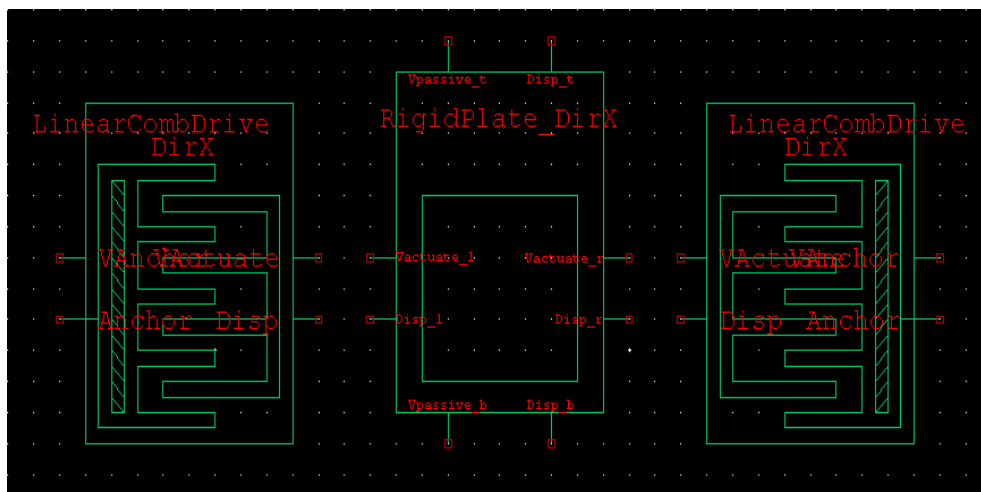

Figure 3: Aligning the comb-drives to the plate
- ☑ Move the comb-drives so that their connection pins, represented by circles, line up with the pins on the plate (**Figure 3**).